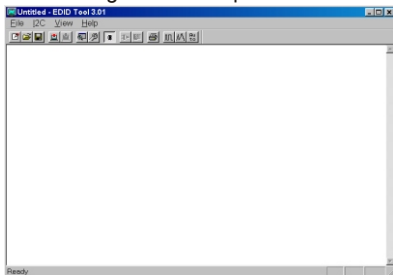

Fig. 11
- Click  icon as shown in Fig. 11 from the tool bar to bring up the Channels "Configuration Setup" windows as shown in Fig. 12.